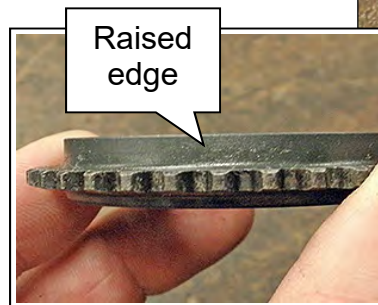

Figure 139
- Make sure the raised edge (wider edge) on the drive sprocket is facing up (Figure 139).